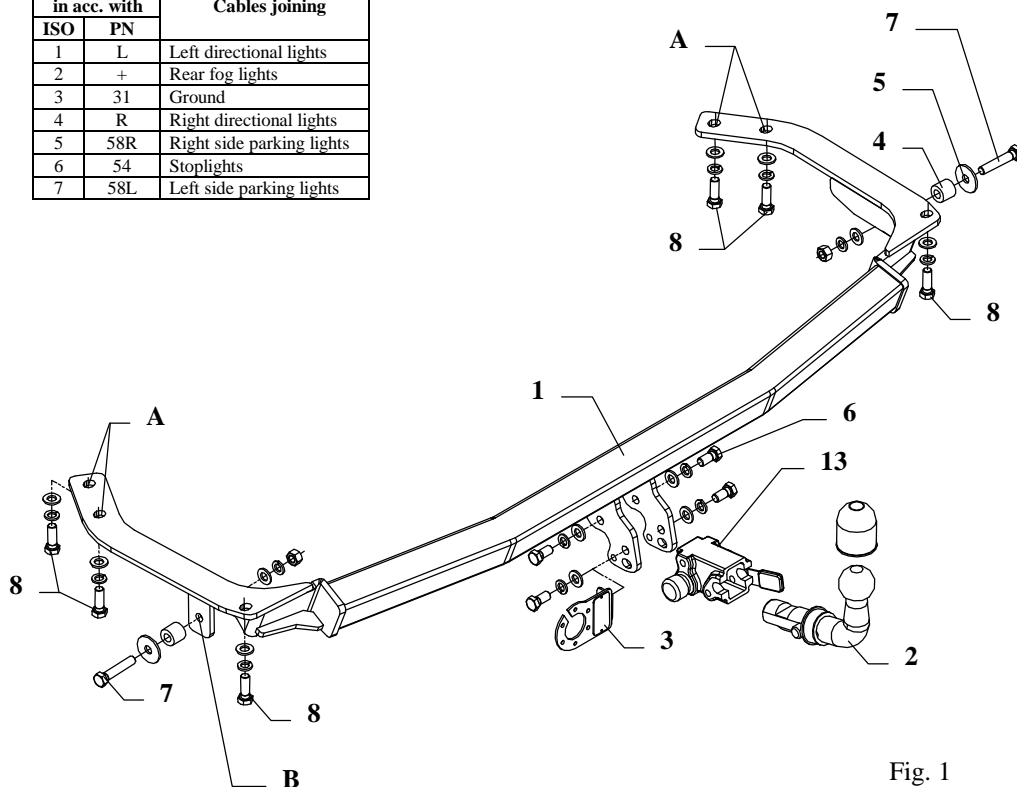

Fig. 1
3. Apply the main bar of the towbar (pos. 1) to the automobile frame, that way so holes of the towbar (pos. A) be covered with factory-made threaded holes. Fix using bolts M12x1,25x35mm (pos. 8).
4. Through holes (pos. B) fix with factory-made holes. Use distance sleeves $\varnothing 25 \times \varnothing 13 \text{mm}$, L=23mm (pos. 4), washers $\varnothing 41 \times \varnothing 13 \times 3 \text{mm}$ (pos. 5) and bolts M12x60mm (pos. 7) as showed on the fig. 1.